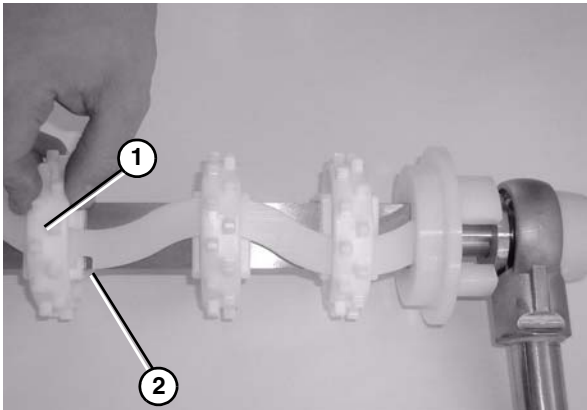

Figure 68
4. Install the remaining sprockets (**Figure 68, item 1**) making sure to position each sprocket with the next available notch (**Figure 68, item 2**) in the sprocket alignment bar.